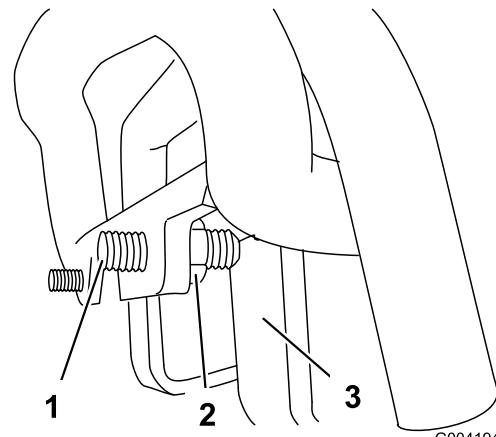

Figure 57
3. If the traction unit veers to the **left**, loosen the **right** jam nut and adjust the tracking set screw on the front of the traction control (Figure 57).
4. If the traction unit veers to the **right**, loosen the **left** jam nut and adjust the tracking set screw on the front of the traction control (Figure 57).